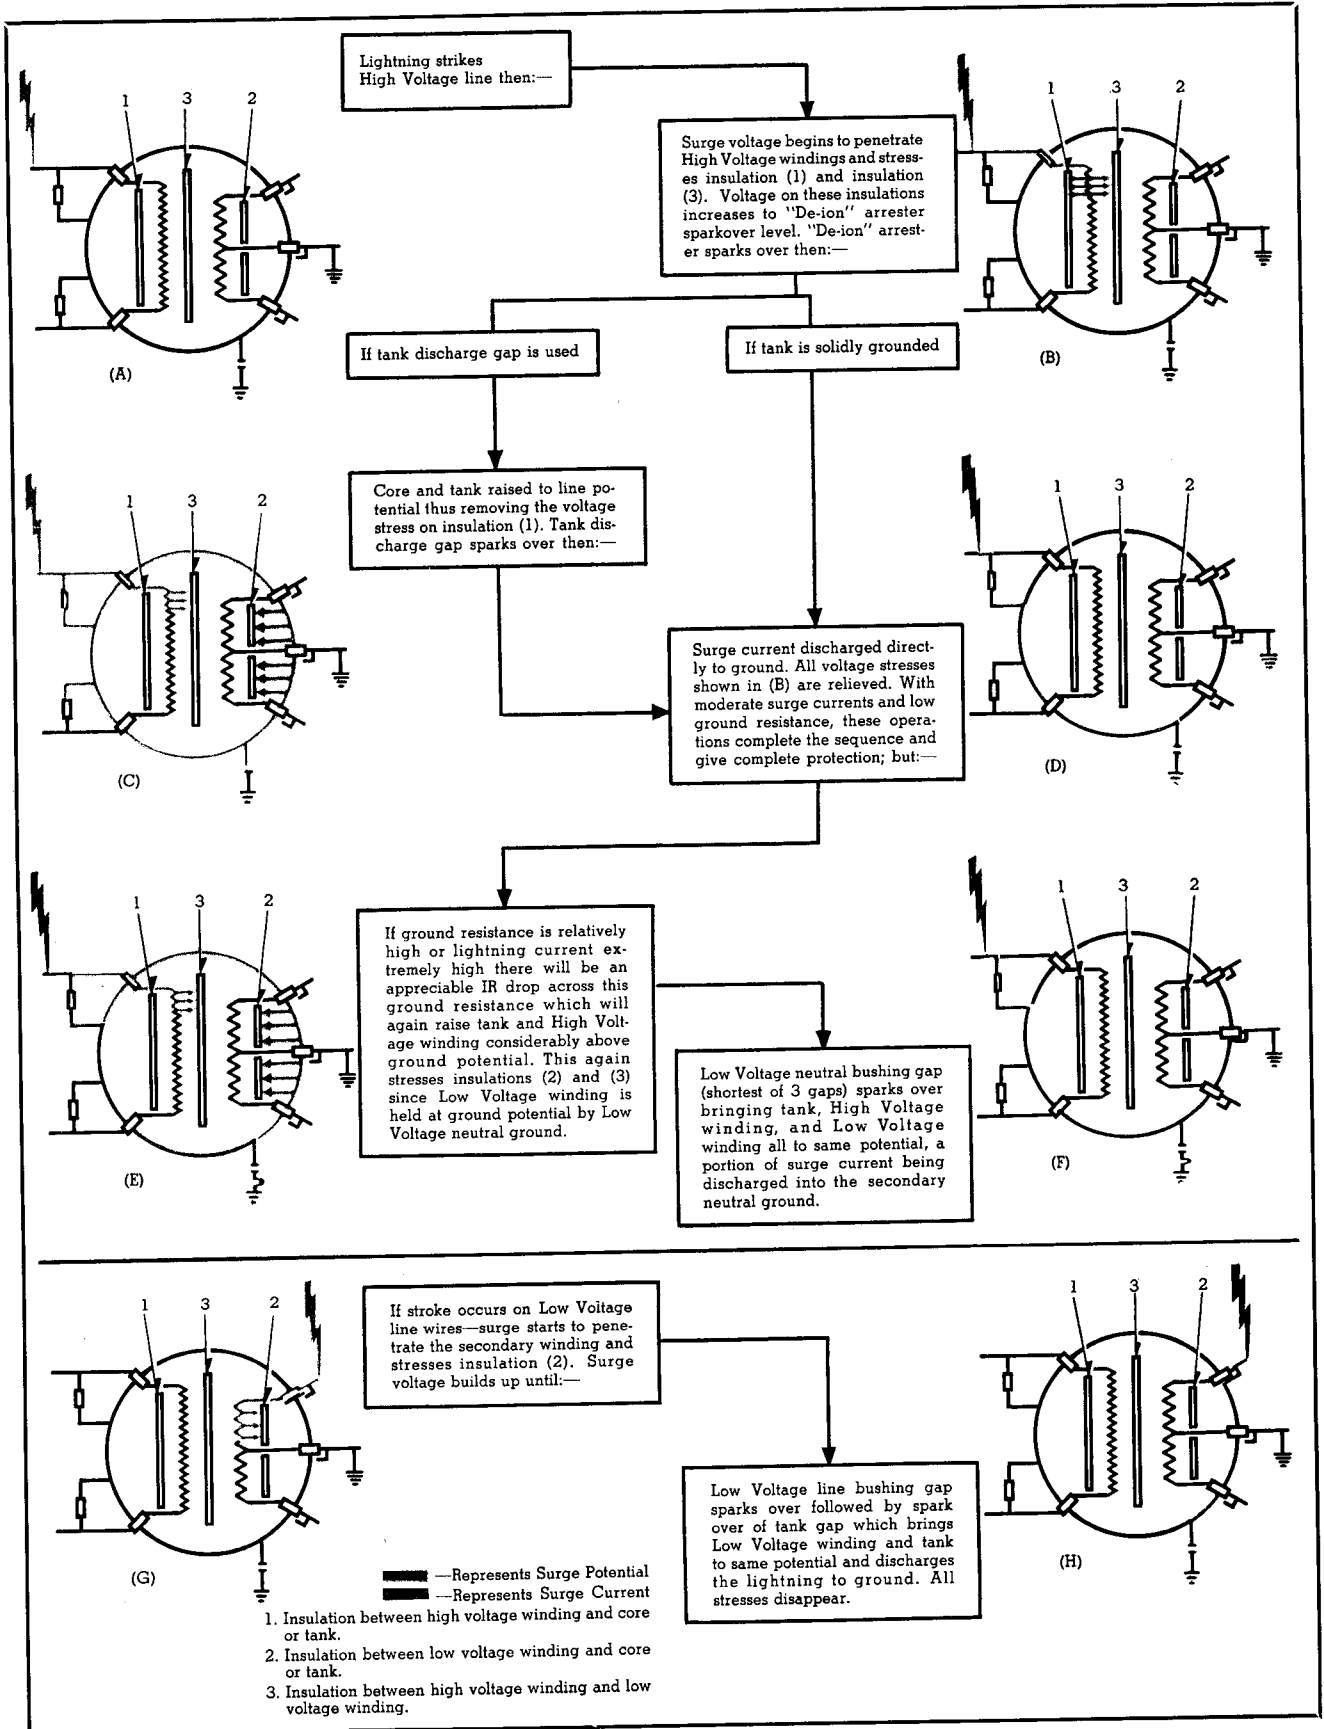

FIG. 11. Mechanism of "Three-Point Surge Protection".
Westinghouse "CSPB" transformers furnish protection to insulation (1) by "De-ion" arresters which limit the voltage between the high-voltage winding and the tank; to insulation (2) by secondary bushing gaps which limit the voltage between the secondary winding and tank; and to insulation (3) by the combination of the "De-ion" arrester on the high-voltage side and the bushing gaps on the secondary side, which limit the voltage between the primary and secondary windings to not more than the greater of the protective levels of the primary and secondary devices. It should be noted that bringing the tank into this circuit is an important part of the protection which is known as "three-point surge protection" since all three insulations are protected. For the sequence of events in the operation of this "three-point surge protection" scheme, see Fig. 11.